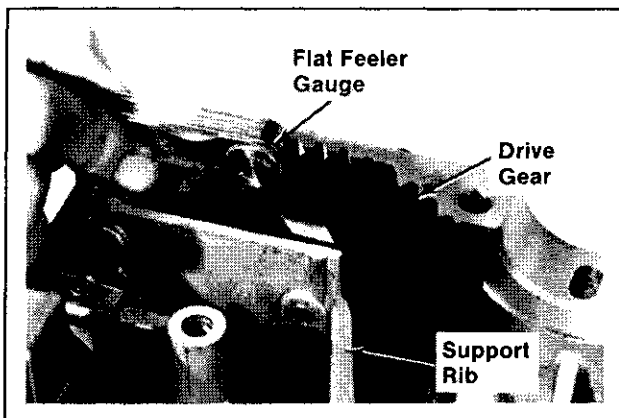

Figure 11-3. Measuring Oil Pump Drive Gear End Play.
4. Measure pump drive gear end play with a flat feeler gauge. Refer to Figure 11-3. Recommend end play is $.010/.029$ ". Add one (1) additional shim spacer, if necessary, to bring end play within range.